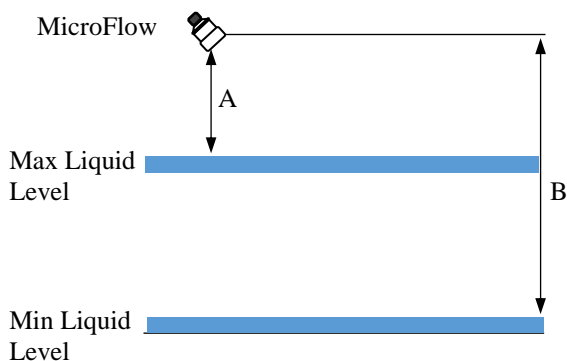

Fig.8
- Position the sensor at a height of 250mm above maximum liquid level or up to two times the channel width from the minimum liquid level, whichever is greater. As shown in Fig.8 below: